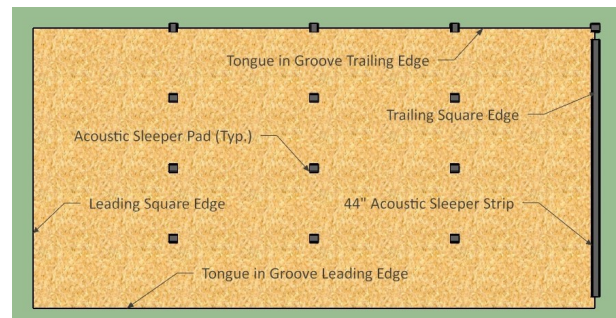

Figure 2: Inverted view with strip
- Fig. 2: Optional plan for wood framing at mass timber floors with 44" strip at trailing square edge.